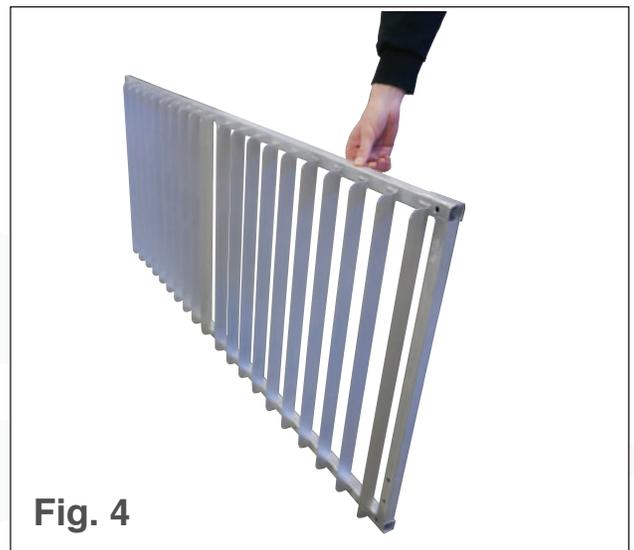

Fig. 4
1. Place one of the racks on its side on the floor (see Fig. 4).